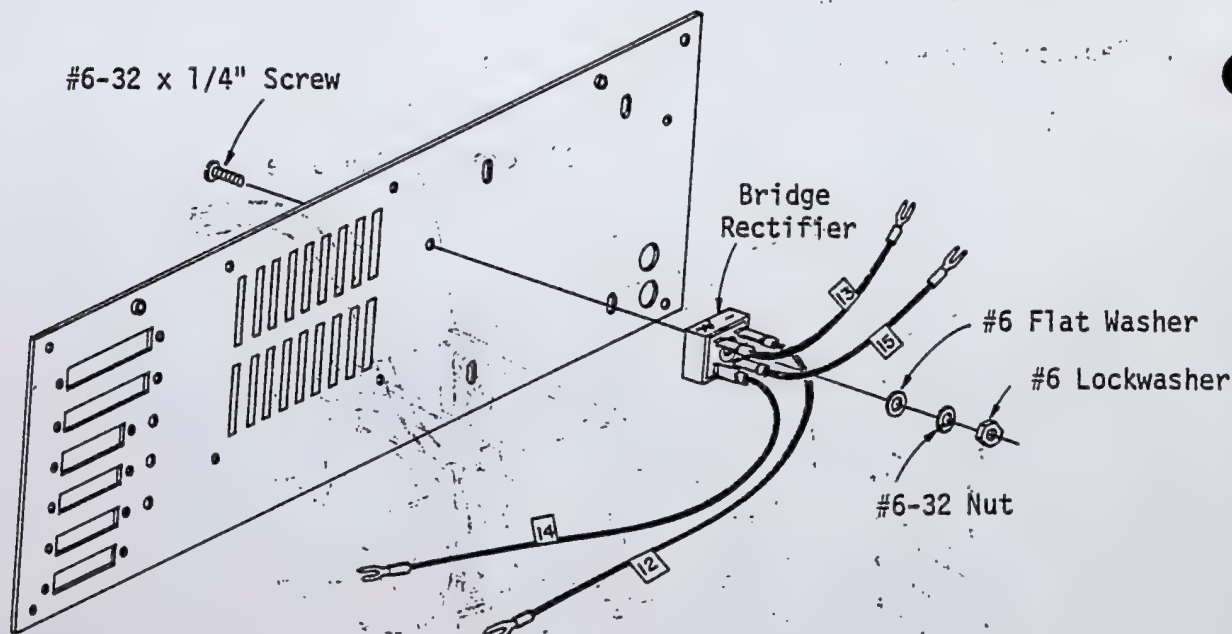

Figure 5-51: Bridge Rectifier Installation
(Figure 5-51)
Use the following instructions to wire the bridge rectifier (Bag 1) and mount it to the back panel as shown in Figure 5-51. The bridge rectifier is part number KBH25005.
4. Slip the A size terminal ends onto the bridge rectifier terminals as shown in Figure 5-51. Attach the two 5-inch wires to the "AC" terminals and use masking tape to label them 13 and 15. Attach the two 19-inch wires to the "+" and "-" terminals and label them 14 and 12 respectively.